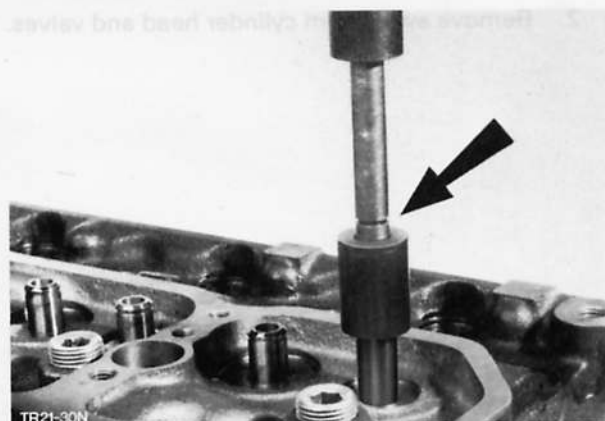

Fig. 123. Fit valve guide
2. Using the same tool press in valve guide from top in cylinder head up to mark, Fig. 123.